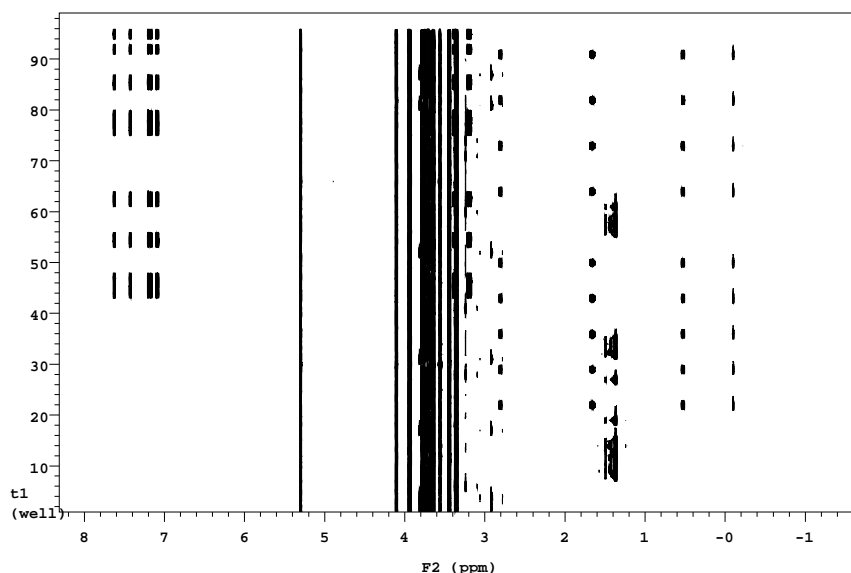

Figure 86. Contour Plot of a VAST Data Set
Figure 86 shows a pseudo 2D contour plot of the VAST data set.
The pseudo 2D in Figure 86 was created using `vastglue` with no arguments. The `f1` axis of the plot is modified to display the well numbers by typing the following on the VNMR command line:
Pseudo 2D data sets processed with `wft1da` can be displayed and plotted using the same tools that are used for a typical 2D data set. The plot in Figure 86 was created using `pcon('pos',8)`.
- To show a contour plot of the entire plate (similar to Figure 86), enter `trace='f2'` `wft1da`. You can look at each spectrum using the *trace* display to scan through each *increment* as desired. You can expand around either a given chemical shift range, or a certain number of wells (a row or column, depending upon the orientation of the plate). Use the `vastglue`, `dsvast`, and `plvast` macros.